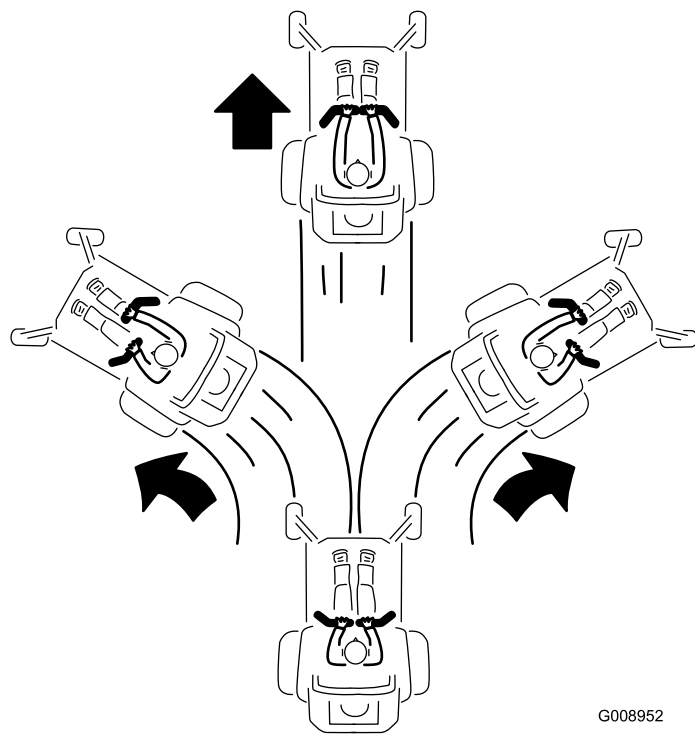

Figure 20
3. To drive the machine forward, slowly push the motion-control levers forward (Figure 20).